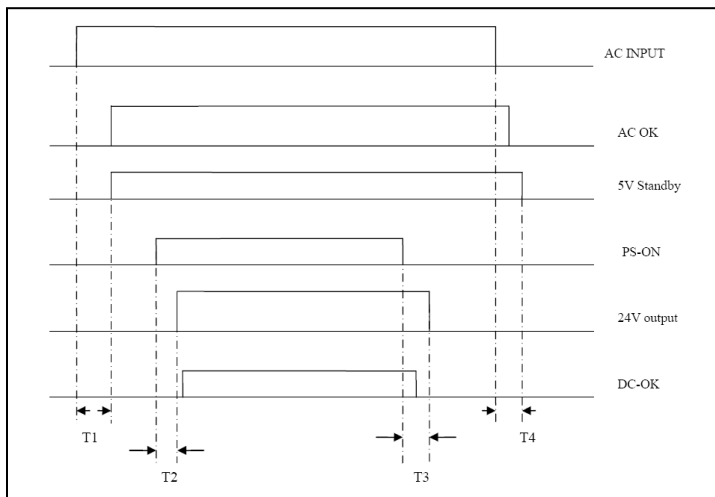

Figure 8. Typical turn on and turn off timing sequence
5. Timing sequence overall (Ref. figure8, figure 9, figure 10, table 4)